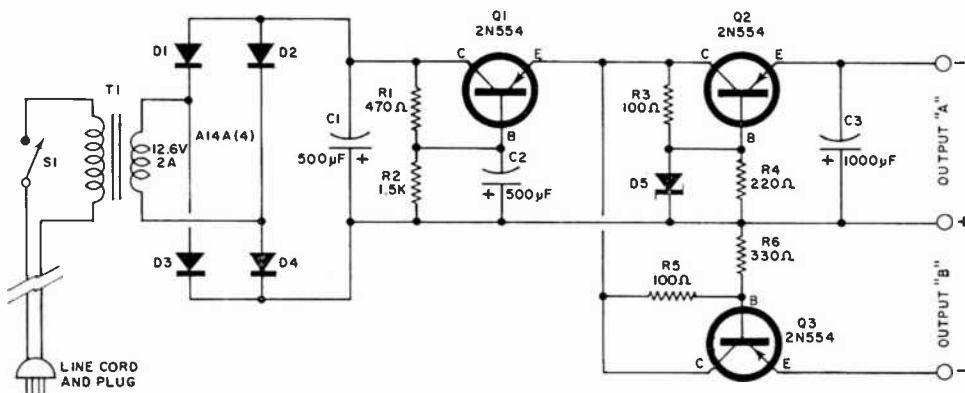

Fig. 2. Power supply to control electromechanical devices has two outputs of 12 volts at 1 ampere.
**Reader's Circuit.** Intended for use in equipment employing electromechanical devices (motors or solenoids) as well as electronic circuitry, the dual-output power supply whose schematic is shown in Fig. 2 was submitted by reader Albert H. Reichel, Jr. (Rd. 2, Box 419, Monongahela, Pa. 15063). It can be used in control units, tape recorders or record players. Featuring a noncritical design and standard components, the project can be assembled in two or three evenings or on a weekend. The unit can supply up to 12 volts at 1 ampere through a single output stage, somewhat less if both outputs are used simultaneously.
Generally speaking, regulated output "A" (Fig. 2) is used to power electronic circuitry, while output "B" is used to operate auxiliary motors or electromechanical devices (a turntable motor in a record player, for example). If only a single power source is needed, as in a radio receiver or audio amplifier, the isolated auxiliary output stage (*Q3*, *R5*, *R6*) may be omitted.